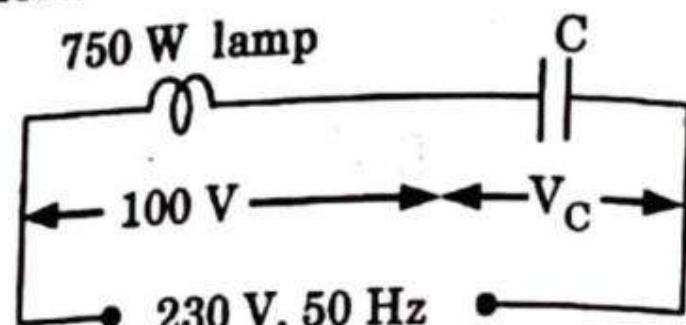

Fig. 2.16.1.
1. Let pure capacitor C farads be connected in series with the lamp, shown in Fig. 2.16.1.